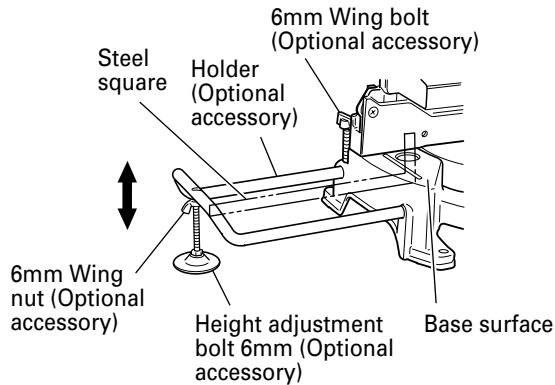

Fig.10
- (1) As indicated in Fig. 10, use a steel square for aligning the upper edge of the holders with the base surface.